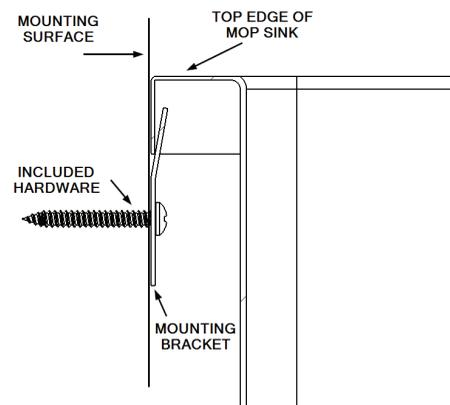

Figure 2
2. Use provided hardware to mount the mounting bracket onto the wall. (See Figure 2).